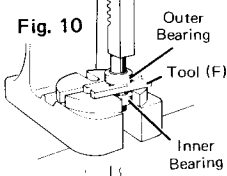

Fig. 10
6. Place two rods (tool F) between the two main bearings and press on shaft to remove **OUTER MAIN BEARING**. (Fig. 10)